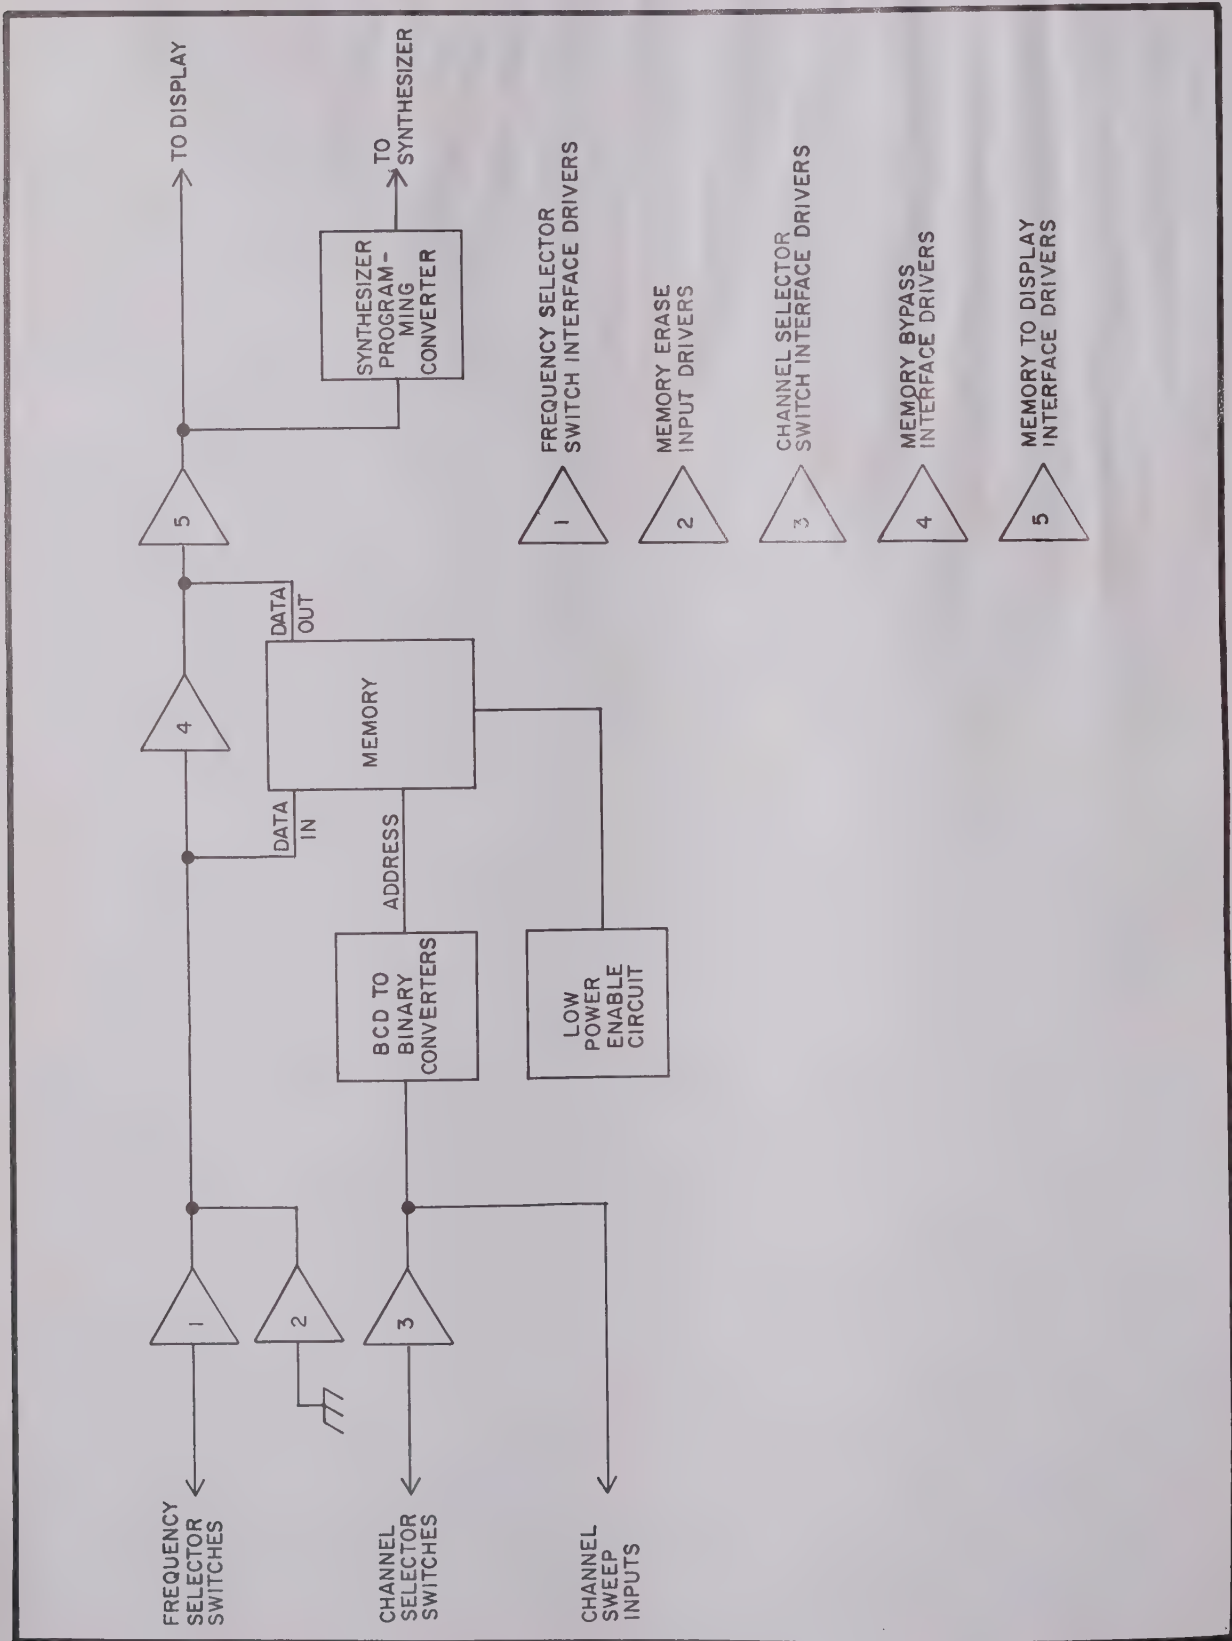

Figure 4.4 GSB-900SC Memory Board Block Diagram (1A1A7)
Figure 4.4 shows a simplified block diagram of the memory system. Portions of the system are enabled or disabled at certain times depending on the mode selected by the Frequency Control Mode Keyswitch.
The Frequency Selector Switch Interface Drivers are designated as Drivers #1 in Fig. 4.4 which is a block diagram of the Memory Board 1A1A7. The Frequency Selector Switch Interface Drivers are comprised of Hex Bus Drivers U23, U24, U25 and U26A. These Drivers pass the BCD Frequency Selector Switch information into the Memory Board except when their outputs are forced into a high impedance state by the presence of a high on the Clear Mode input pin 15 of U23, U24, U25 and U26A. Consequently the BCD Frequency Selector Switch information is always passed into the Memory Board for processing except when the Clear Mode signal indicates that the Master Clear button has been pushed and that zeros are being loaded into all the memory locations. In that case the BCD Frequency Switch information is blocked from entering the Memory Board because the Band Steering Board, 1A1A6, is producing a high on Memory Board input 1A1A7P1-63 called Clear Mode which disables Drivers #1 and prevents any influence by the Frequency Switch information.
The Memory Erase Input Drivers are designated as Drivers #2 in Fig. 4.4, the Memory Board block diagram. The Memory Erase Input Drivers are comprised of Hex Bus Drivers U11, U12, U13 and U14. These Drivers produce high impedance outputs continuously
The Channel Selector Switch Interface Drivers are designated as Drivers #3 in Fig. 4.4. The Channel Selector Switch Interface Drivers includes Hex Bus Drivers U22 and U26B. These drivers pass the Channel Selector Switch information into the Memory Board at the same time the Frequency Selector Switch Interface Drivers pass the Frequency Switch information into the Memory Board. This is because Drivers #3, comprised of U22 and U26B, are enabled by a low on the Clear Mode input pin 15 of U22 and U26A. However, just as with Drivers #1, when the Clear Mode input on 1A1A7P1-63 of the Memory Board is high, the outputs of Drivers #3 become high impedance preventing the Channel Selector Switches from influencing the Memory Addressing Inputs. This action permits the Channel Sweep Inputs seen in Fig. 4.4 to control the Memory Addressing Inputs so that each memory address may be selected in sequence to facilitate the loading of zeros in all memory locations during the Clear Mode.
The Memory Bypass Interface Drivers are designated as Drivers #4 in Fig. 4.4. The Memory Bypass Interface Drivers are comprised of Hex Bus Drivers U15, U16, U17 and U18. If inputs 1 and 15 of U15, U16, U17 and U18 are low, the Memory Bypass Interface Drivers will permit the BCD information simultaneously present both on their inputs and on the Memory Data Inputs to bypass the Memory RAMS, U3 through U8. The outputs of Drivers #4 will appear as outputs on the Memory Data Output lines even though they do not originate within the memories. Inputs 1 and 15 of U15 through U18 are called Read Freq and Secure, respectively. They originate on the Band Steering Board, 1A1A6, and enter the Memory Board at 1A1A7P2-75 and 1A1A7P2-77, respectively. Both signals will be low permitting the Memory RAMS to be bypassed if neither the Read Freq mode nor the Secure mode are selected via the front panel Frequency Mode Keylock switch, S9. If the radio is operating in either the Read Freq or the secure mode, Drivers #4 will be disabled and the contents of the Memory RAMS, U3-U8, will instead be present on the Memory Data Output lines. If the radio is operating in either the Read Freq or the Secure mode, then either inputs 1 or 15 of Drivers U15 through U18 will be high thus causing their outputs to become high impedance. Since the RAM Memory Data Outputs are enabled only during the Read Freq or the Secure Mode and are high impedance during the Normal or the Load Freq mode, the Memory Data Output lines will contain the BCD Frequency switch input data during the Normal and the Load Freq mode and the BCD Memory contents during the Read Freq or the Secure mode.
The Memory to Display Interface Drivers are designated as Drivers #5 in Fig. 4.4. The Memory to Display Interface Drivers are comprised of Hex Buffer/Drivers U27,
U28, U29 and U30. These drivers are always enabled. They provide output drive capability for whatever BCD data is found on the Memory Data Output lines. They send the BCD data on the Memory Data Output lines, whether it represents the Frequency Switch inputs or the contents of Memory, to the Display Driver Board, 1A1A2. The Memory to Display Interface Drivers send the 10 MHz, 1 MHz, 100 kHz and 10 kHz Memory Board output data to the Band Steering Board, 1A1A6, where it drives the two Synthesizer Steering Networks as well as the Band Converter Circuits. On the Memory Board itself, the 10 MHz, 1 MHz and 100 kHz BCD outputs of the Memory to Display Interface Drivers provide control inputs to the Synthesizer Programming Converter seen in Fig. 4.4. The Synthesizer Programming Converter changes the 10 MHz, 1 MHz and 100 kHz BCD output data of the Memory to Display Interface Drivers to Inverted Decimal, Nines Complement and Tens Complement data for the 10 MHz, 1 MHz and 100 kHz Synthesizer inputs, respectively.
The Synthesizer Programming Converter in Fig. 4.4 changes the 10 MHz, 1 MHz and 100 kHz BCD output data of the Memory to Display Interface Drivers to Inverted Decimal, Nines complement and Tens Complement data for the 10 MHz, 1 MHz and 100 kHz
4.3.5.2 Referring again to Fig. 4.4, the Memory Board Block Diagram, note that portions of the system are enabled or disabled at certain times depending on the mode
selected by the Frequency Control Mode Key switch. The numbered drivers in Fig. 4.4. will define the paths of signals in the following mode descriptions.